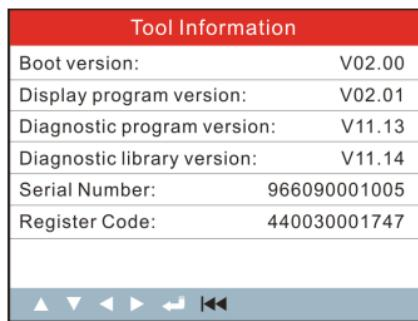

Figure 5-3
8. The Register Code shown in Figure 5-3 is the Register Code needed in step 5.